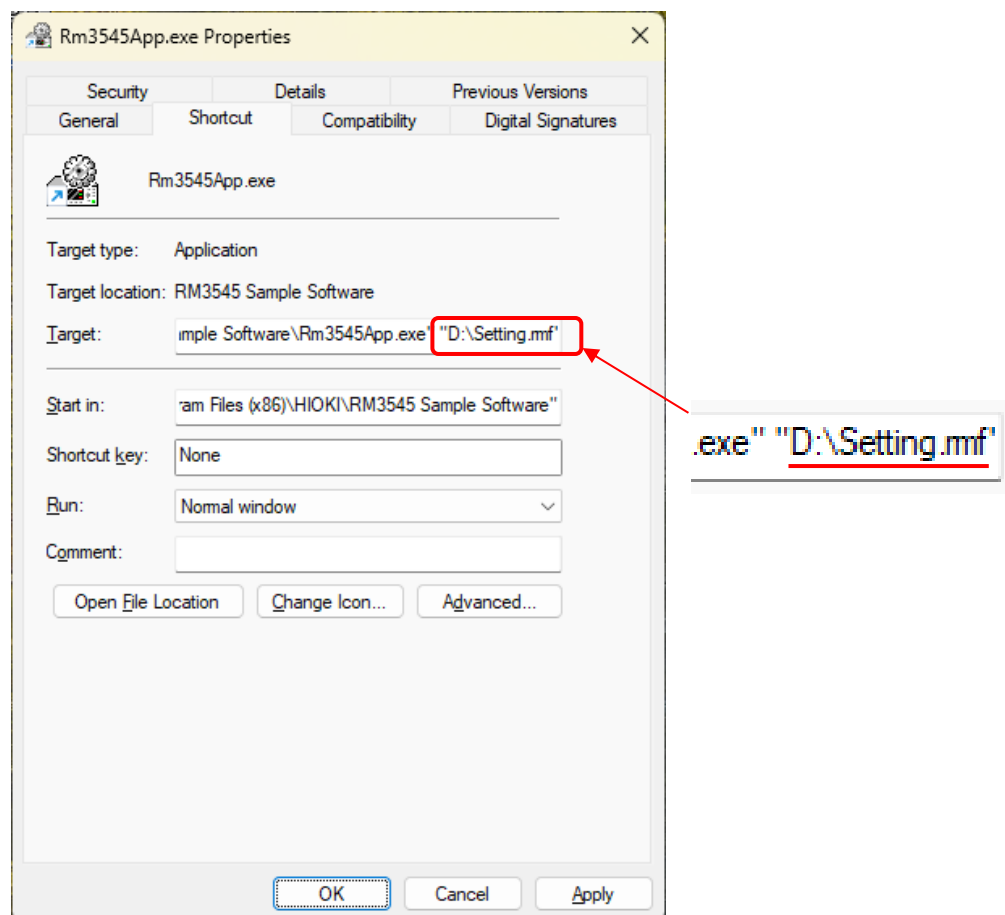

Figure 3-1
3. After the link, insert a space, enter the full path to the settings file, and click the “OK” button. (See Figure 3-1.)
In the example shown in Figure 3-1, the file “Setting.rmf” on drive D: has been specified.